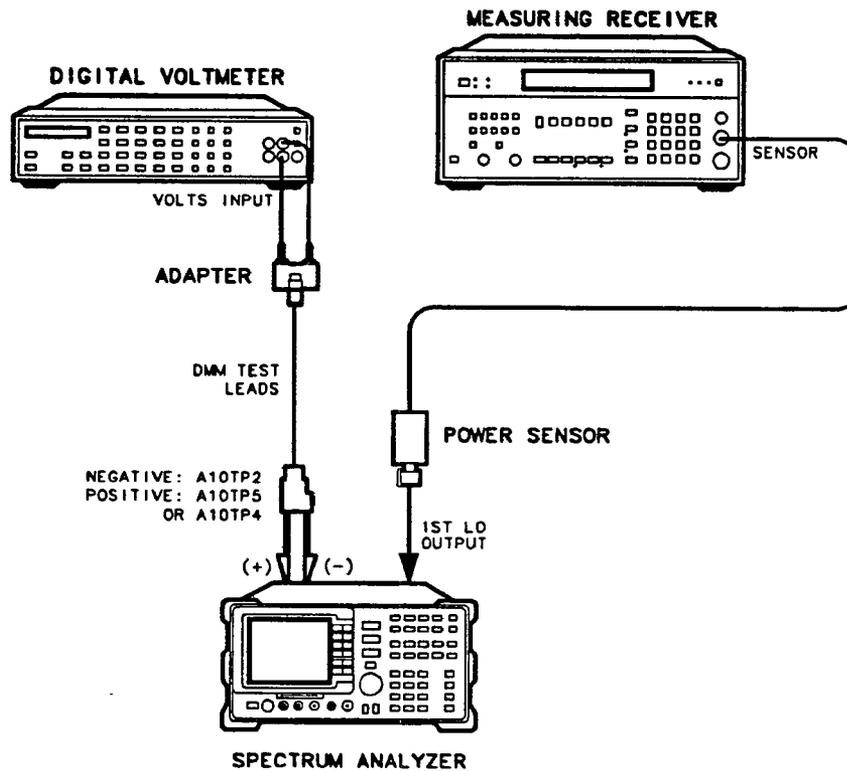

Figure 2-2. First LO Distribution Amplifier Adjustment Setup
3. Connect the positive DVM test lead to A10TP5, GB (gate bias). Connect the negative DVM test lead to A10TP2, AGND (analog ground). See Figure 2-2.